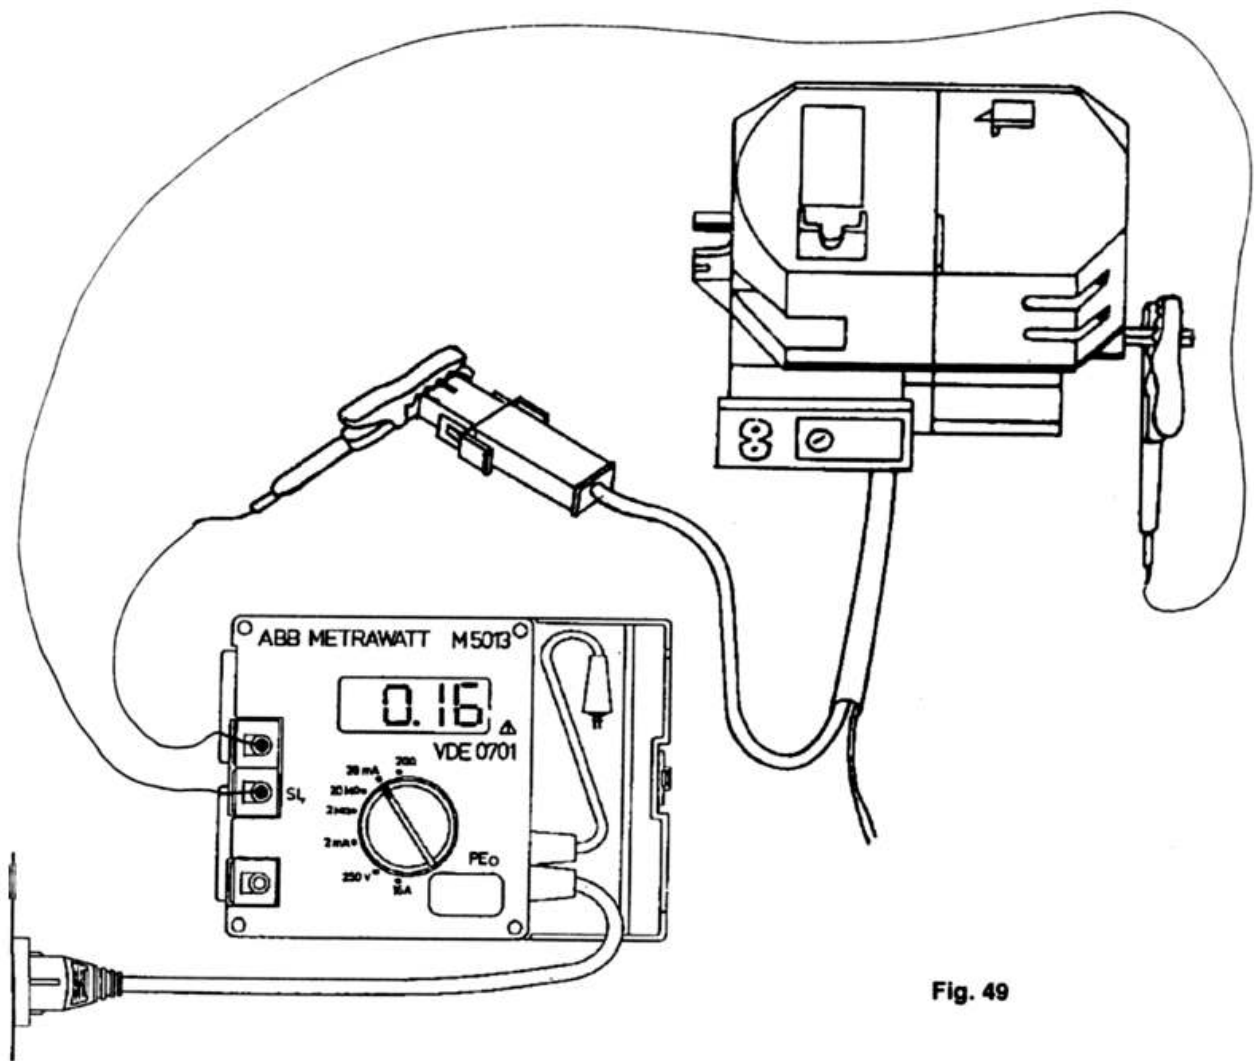

Fig. 49
- Set knob for measuring range at "20 mA" (fig. 49).
- Attach the two test leads as shown in fig. 49.